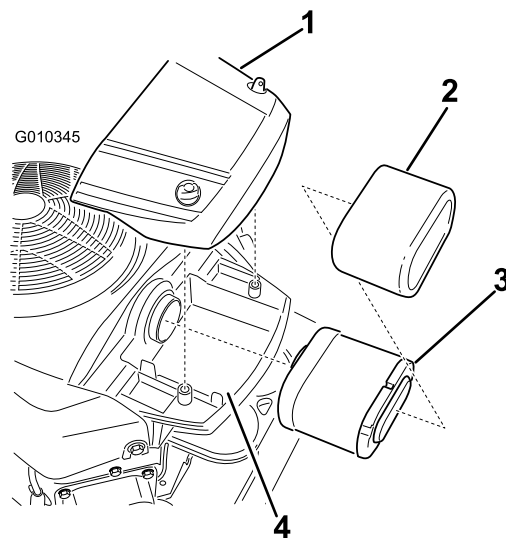

Figure 34
1. Loosen the knobs on the air cleaner cover and pull the cover off to access the air cleaner element (Figure 34).
2. Pull up along the outside edge until the air cleaner snaps out (Figure 34).